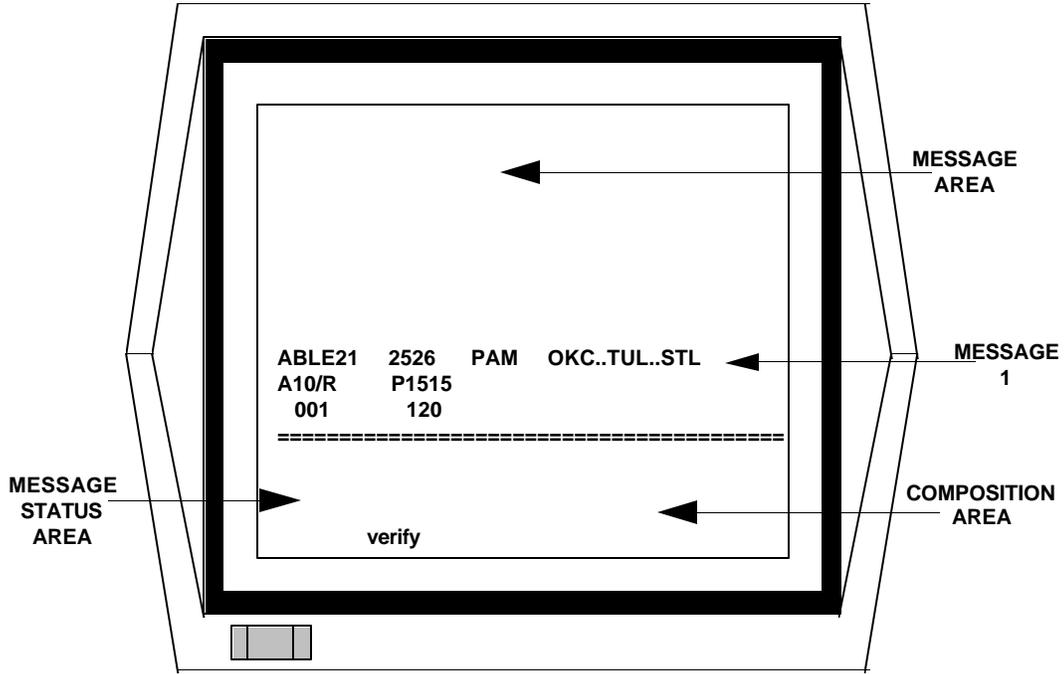

Fig 2-4: CRT DISPLAY AREAS (WITH ONE FLIGHT PLAN)
2.10.7.12 After initial power on, the CRT should display a "blinking" cursor in the lower part of the display area. A series of equal signs ("=") is used to divide the screen into the message composition area and the message display area (fig 2-4).